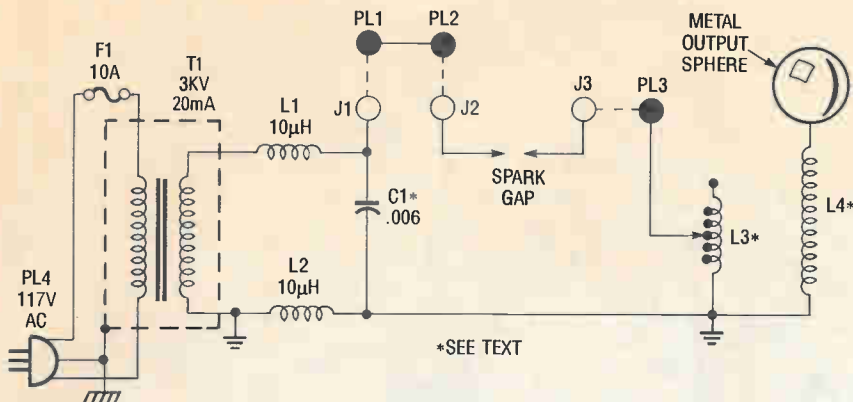

Fig. 1. The Tesla Coil circuit consists of little more than a few coils, a step-up power transformer, and a capacitor.
**Circuit Description.** Figure 1 shows the schematic diagram of the Tesla Coil circuit. The circuit consists of little more than a few coils, a step-up power transformer, and a capacitor. Power from an AC wall socket is fed to transformer T1 (a small neon-sign transformer) which steps the voltage up to about 3000-volts AC.
The rotary spark gap is connected to the Tesla Coil through separate wires and banana jacks (J4 and J5). When the circuit is powered up, the current that normally travels through the stationary spark gap on the Tesla Coil is rerouted through the rotary gap via J4 and returned to the Tesla Coil via J5. To make the connections plug PL1 into J1, PL2 into J4, and PL3—which in Fig. 1 is used to connect the output of the stationary spark gap to L3—into J5.
you avoid metal enclosures. Because the circuit consists of very few parts, its components can easily be hard-wired together within the housing, using Fig 1 as a guide. There is nothing particularly critical about the layout of the circuit. Just be sure to maintain adequate spacing between the individual com-
Begin assembly by mounting the power transformer on the bottom of the enclosure. Next connect a 10- $\mu$ H AC filter choke in series with each of T1's secondary leads, and then connect the free ends of each coil across C1 (see Fig. 1).
After the coil has been wound, apply clear varnish or polystyrene (Q-DOPE) to hold the coil windings in place, and to help insulate the coil. Next drill a small hole in the center of the Tesla Coil enclosure lid, and thread the lower lead of L4 through the hole and connect it to the ground end of L3 (as shown in Fig. 1) and mount L4 in the center of L3 (see Fig. 4). The secondary coil is then secured in place with glue.